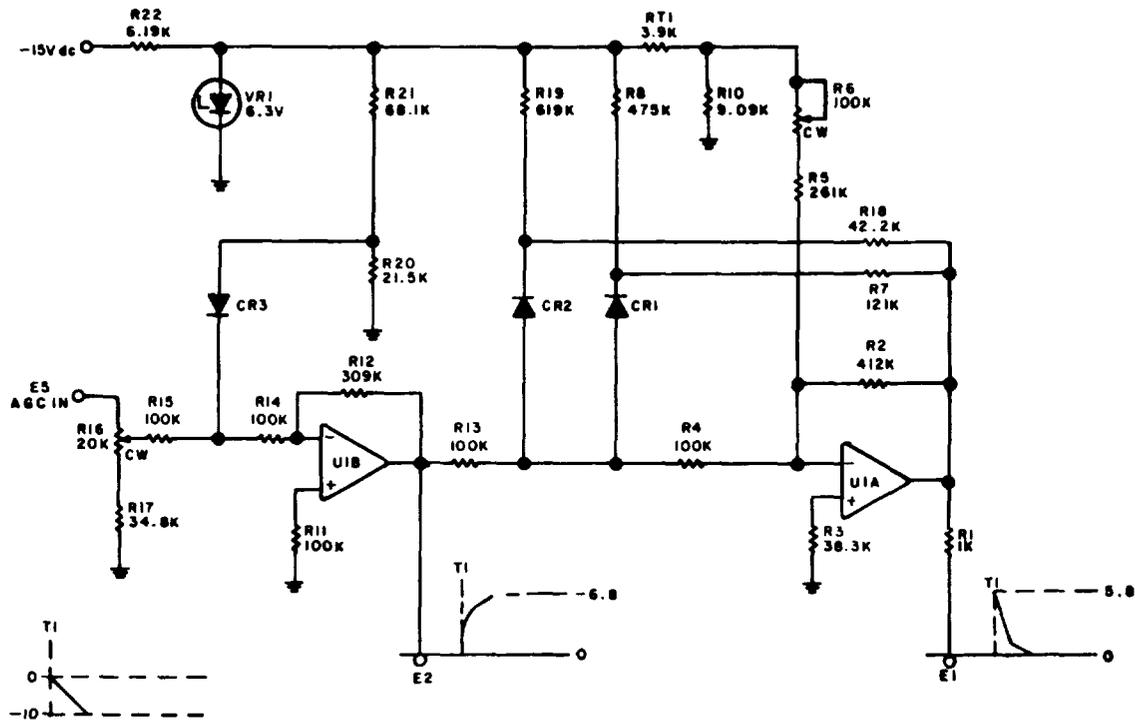

Figure 3-2. Simplified Schematic Diagram, Attenuator Shaper
3.3.1.2 The Attenuator Shaper (A1A2) converts a single AGC voltage into two shaped voltages for use by the Pin Diode Attenuator A1A1. By referring to Figure 3-2 the circuits on the board can be divided into two stages, U1A and U1B. The output of each stage is routed to the PIN Diode Attenuator, and the output of U1B drives U1A. Each stage will be described separately in the following two paragraphs.